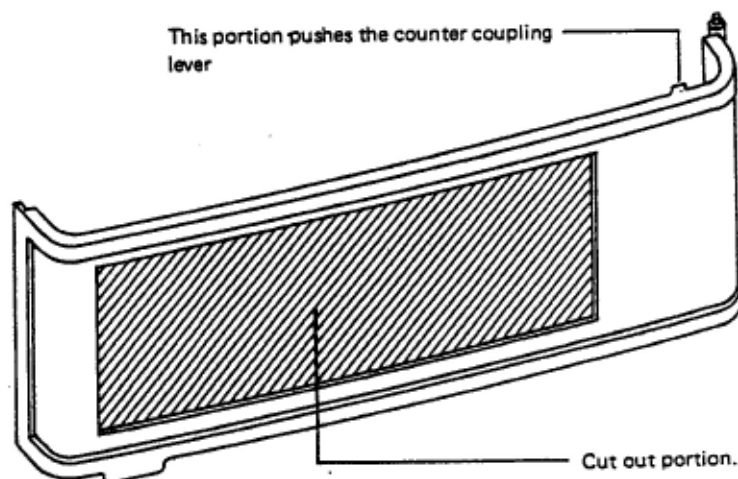

Fig. 68
### (1) The Modified Back Cover. (fig.68)
(4) AUTOMATIC EXPOSURE ADJUSTMENT. (IMPORTANT – See Fig. 68.)